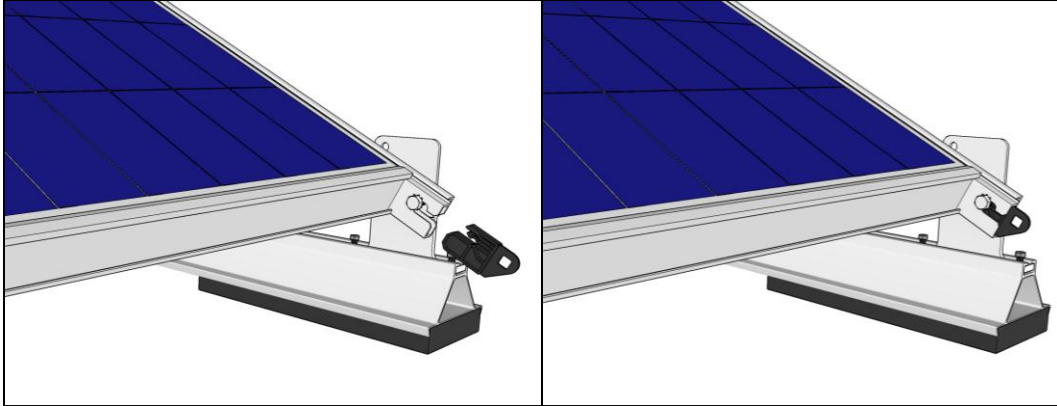

Figure 12
Step 9: Install Keeper Plugs in Module Frames – Figure 12